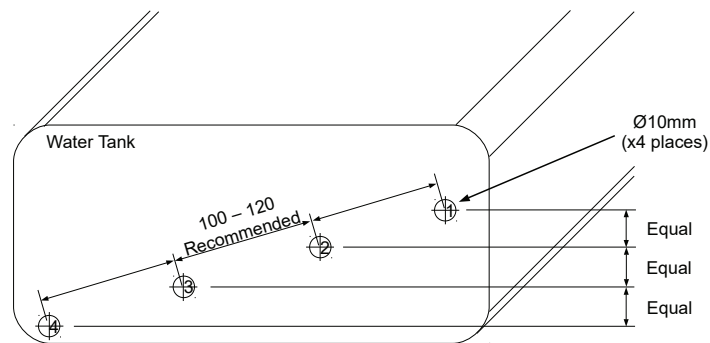

Figure 5
3. Drill the required holes as shown in Figure 5.